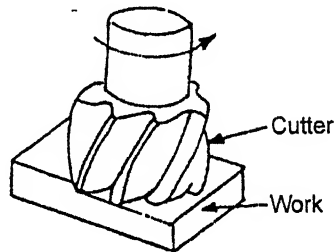

Fig. 10.49. Face milling.
**2. Face milling.** This milling process (Fig. 10.49) is used for machining a flat surface which is at right angles to the axis of the rotating cutter. The cutter used in this operation is the *face milling cutter*.